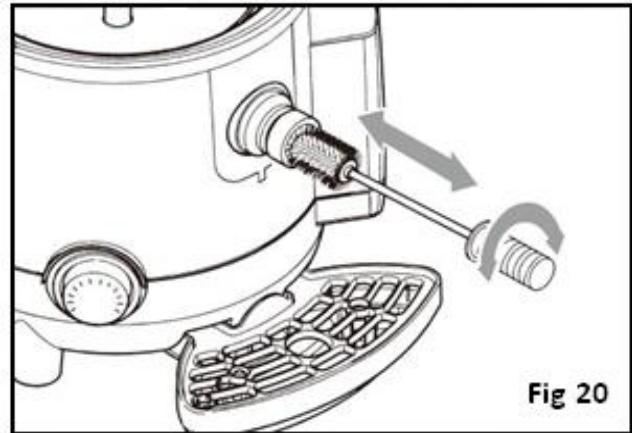

Fig 20
- Clean the channel connecting the bowl and the tap, using a cleaning brush (included) (fig 20)